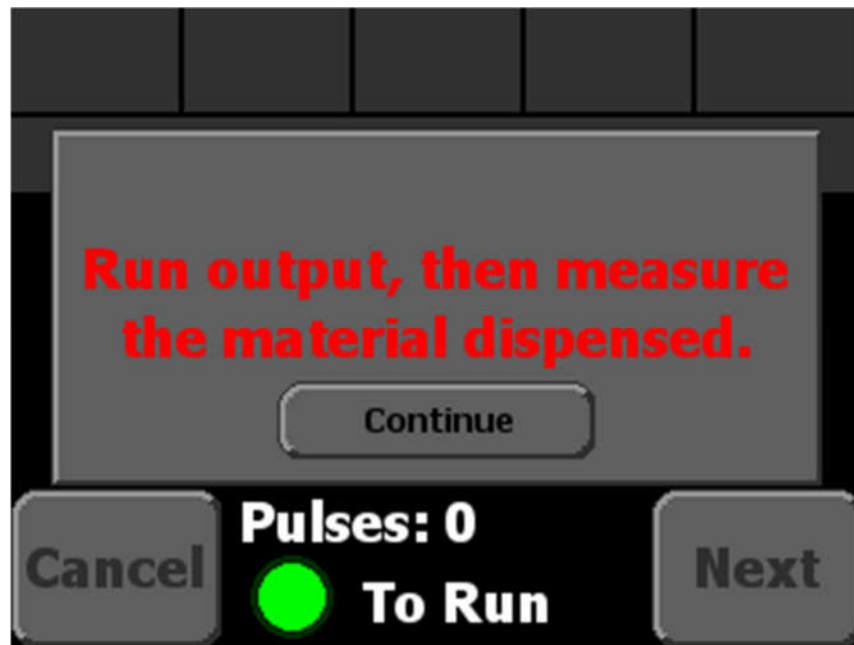

Figure 4: Granular AutoCal Screen
- STEP 5: The Granular AutoCal screen will appear, as shown in Figure 4.